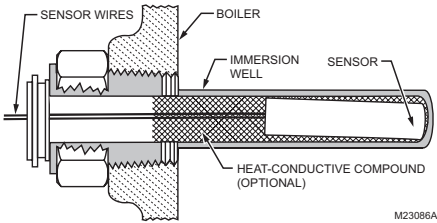

Fig. 8. Immersion well fitting for sensor.
The remote upper temperature sensor is installed in an immersion well (Fig. 8) that extends into the supply water side of the boiler.
6. With mounting clamp attached to well spud (make sure jaws of clamp hook over ridge at end of spud, as shown at points A in Fig. 8), adjust sensing lead-wire to fit through mounting clamp groove, as shown at point B in Fig. 8.